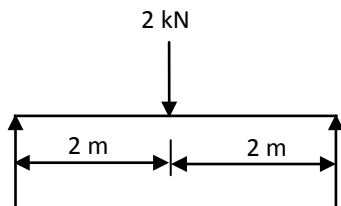
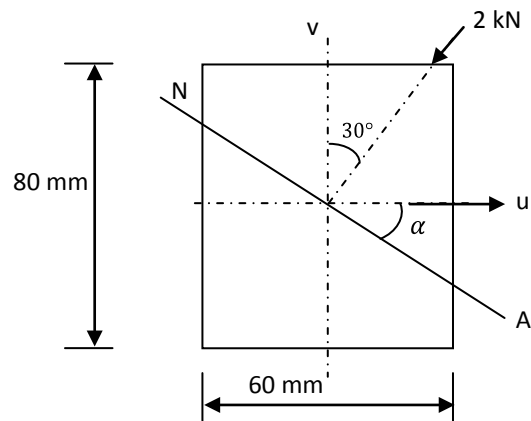

Figure: 1a
Figure: 1b
- 10 A beam is loaded as shown in figure 1a and figure 1b. Determine the maximum deflection and stress at B. Take  $E = 210$  GPa.